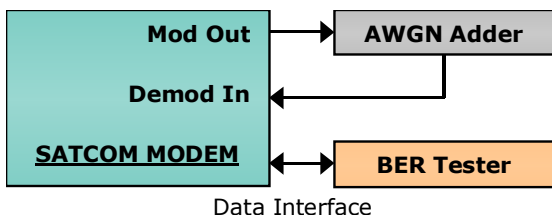

Figure 1. Continuous mode performance test setup
- The set up for *continuous* mode modem testing is shown in Figure 1.
- Test setup is the same as described in Figure 1 except for the burst source